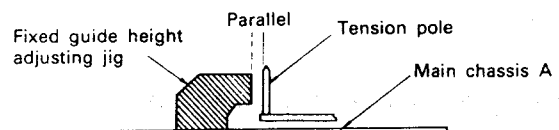

Figure 16.
- 2) Set the stationary guide height adjustment jig as shown in Figure 16.